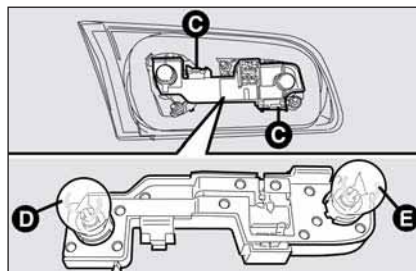

fig. 31
- ☐ push the bulb holder side tabs **C-fig. 31** inwards to remove it;
The bulbs are arranged inside the light unit as follows (**fig. 31**):